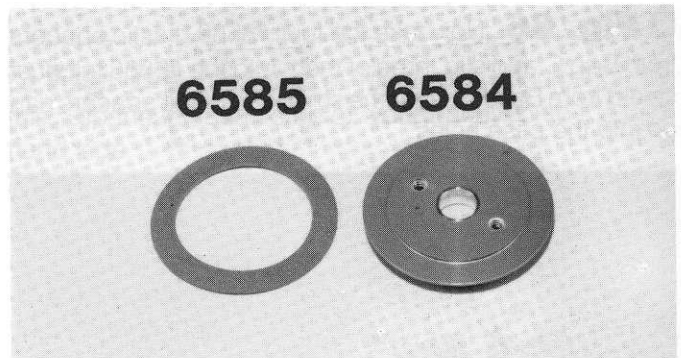

Fig. 72
□ **Figs. 72 & 73** Position the #6585 clutch disk so it's centered onto the #6584 outer hub, as shown.